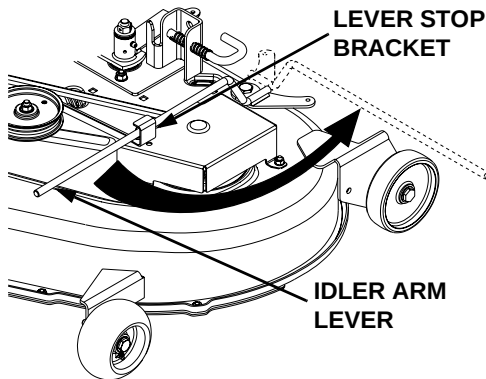
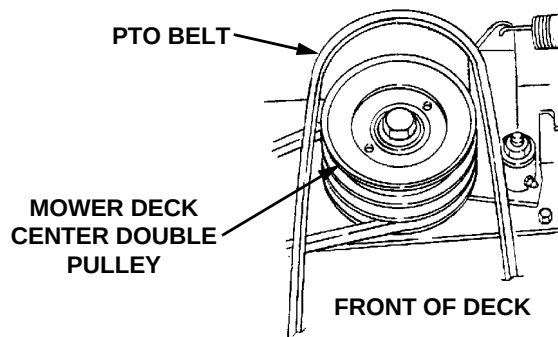

Figure 6-10
Figure 6-11
2. Lower the mower deck by moving the implement lift handle to its lowest setting. Disengage the deck idler arm lever from its stop bracket and release the spring tension by rotating the lever out and rearward (See Figure 6-10).
3. Remove the rearward end of the PTO belt from the upper pulley of the deck center double-pulley (See Figure 6-11). Engage the deck idler arm lever back into its stop bracket (Refer to Figure 6-10).